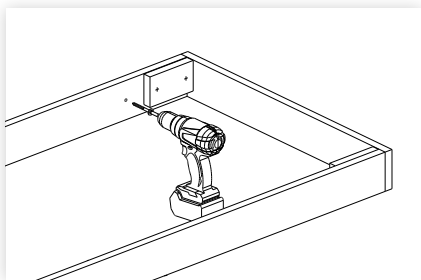

figure 9
7. With the ladder open, pre-drill two 6mm holes in each side of the attic ladder frame making sure there is solid timber behind. Screw through the pre-drilled holes into the ceiling frame (figure 9). Do not fit tight yet.